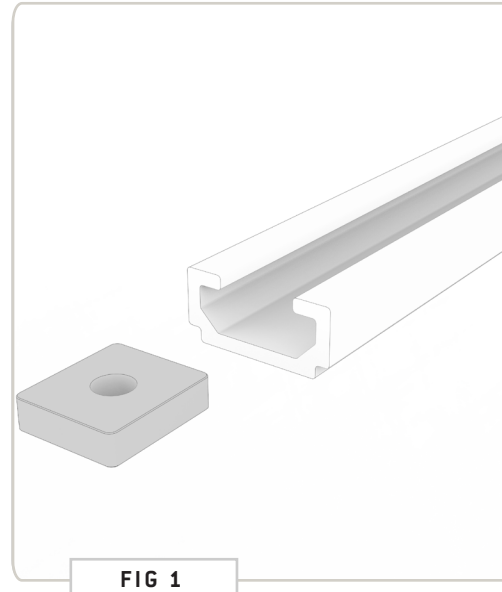
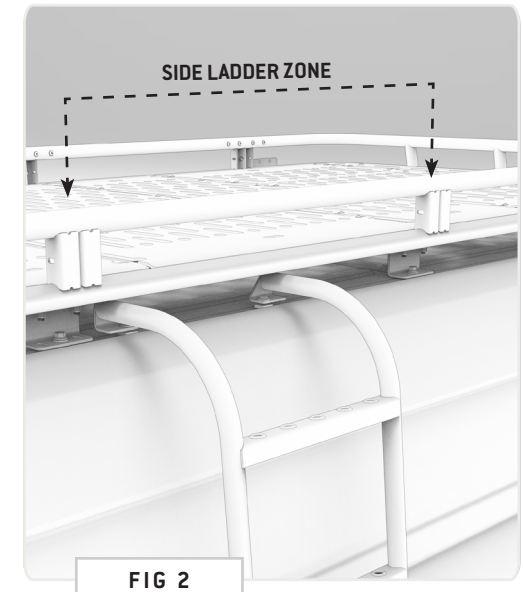

FIG 1
FIG 2
1.1 Install Rail Nuts: Slide (5) Rail Nuts into the Passenger Side factory roof rail (FIG 1), and (5) into the Driver Side rail. If you purchased a Side Ladder to go with your Safari Rack (FIG 2), add two more to the Driver Side Rail in the location shown in FIG 2+3.